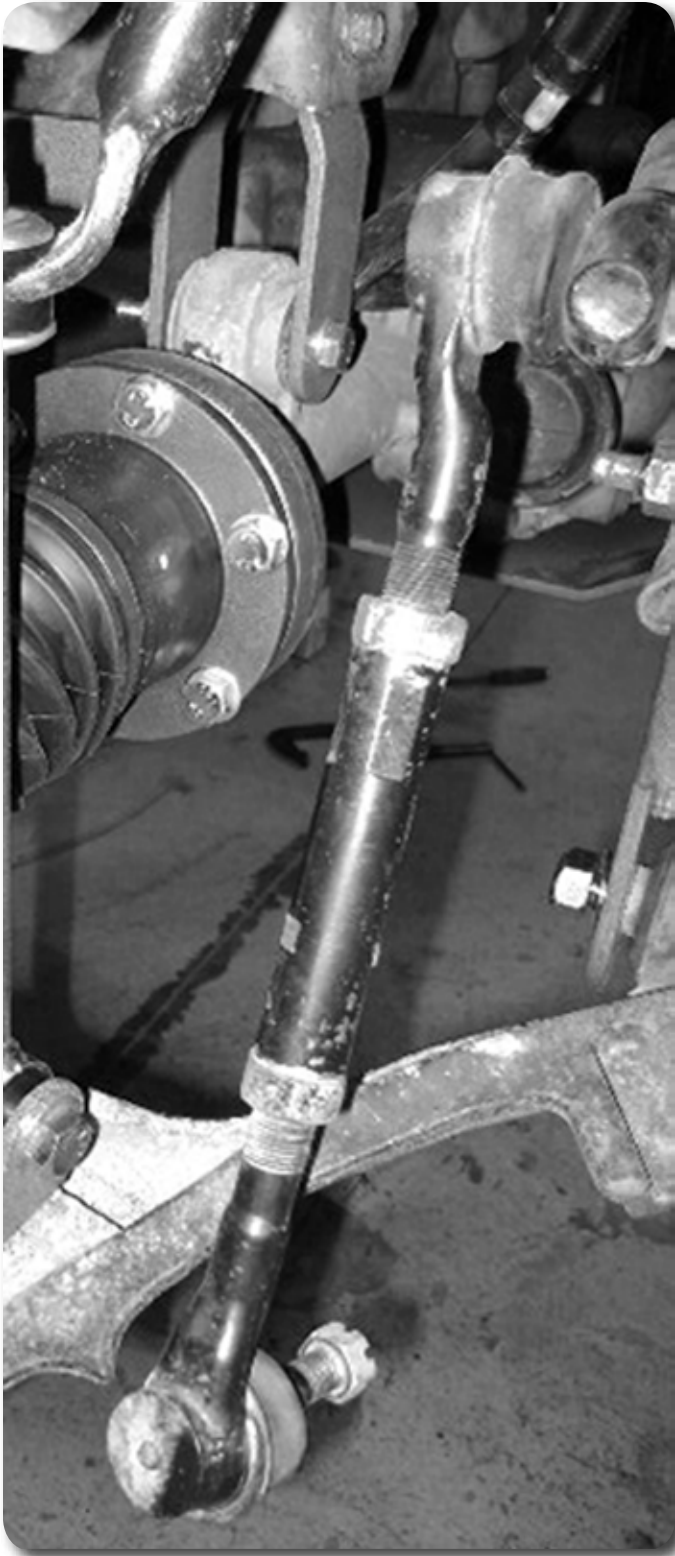

Figure 17
49. Break loose and remove the outer tie rod ends from the adjusting sleeves. **Figure 17** Thread the jam nut up the tie rod end about 1". Mark and cut 3/8" off of the tie rod end threads (end that mates with the adjusting sleeve). Thread the jam nut off to clean the threads.